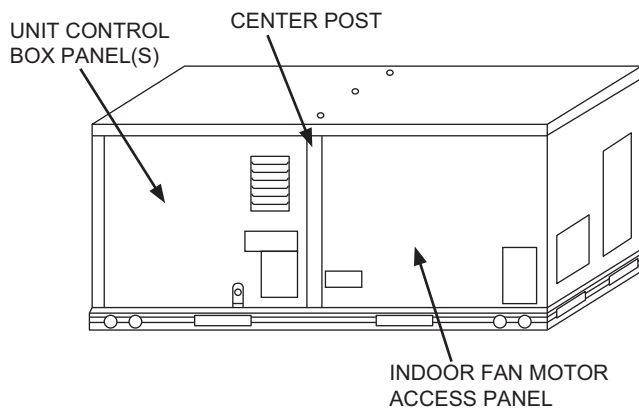

Fig. 6 — Typical Indoor Fan Motor Access Panel Locations
9. Remove the indoor blower access panel and the panel(s) covering the unit control box. See Fig. 6.
24. Install EconoMiSer X hood over economizer. Screw hood in place through pre-punched holes. Reinstall the unit's filter access door. See Fig. 20. Re-install the Indoor blower access panel. See Fig. 6.
25. After powering unit controller, program the Jade W7220 controller per the instructions to follow. See Table 8 for summarized controller set up instructions. After all settings have been made, re-install the unit control box panel. See Fig. 6.